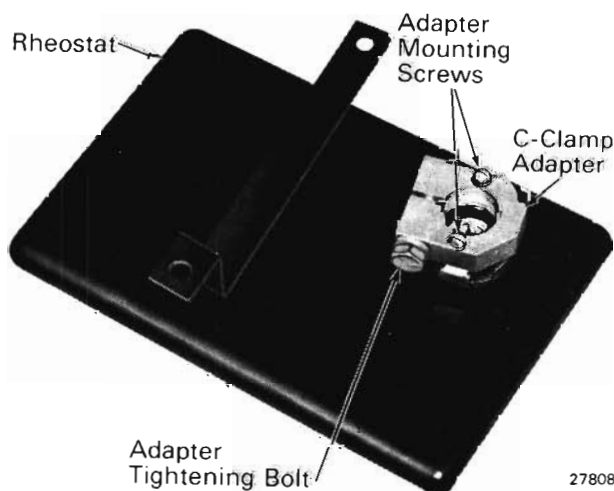

Fig.3 - Dynamic Brake Rheostat And Adapter
3. With dynamic brake in OFF, loosen the 5-16"-18 hex head bolt which tightens C-clamp type adapter to dynamic brake axle, Fig. 3.